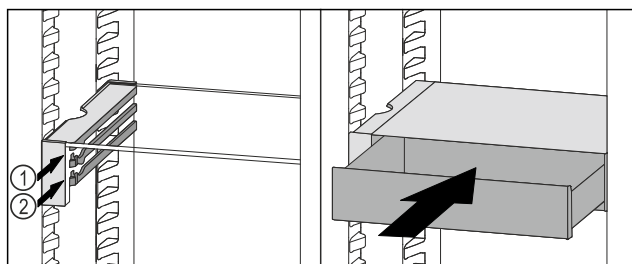

Fig. 106
- Place the VarioSafe drawer behind the stoppers on desired rib *Fig. 106 (1)* or *Fig. 106 (2)*.